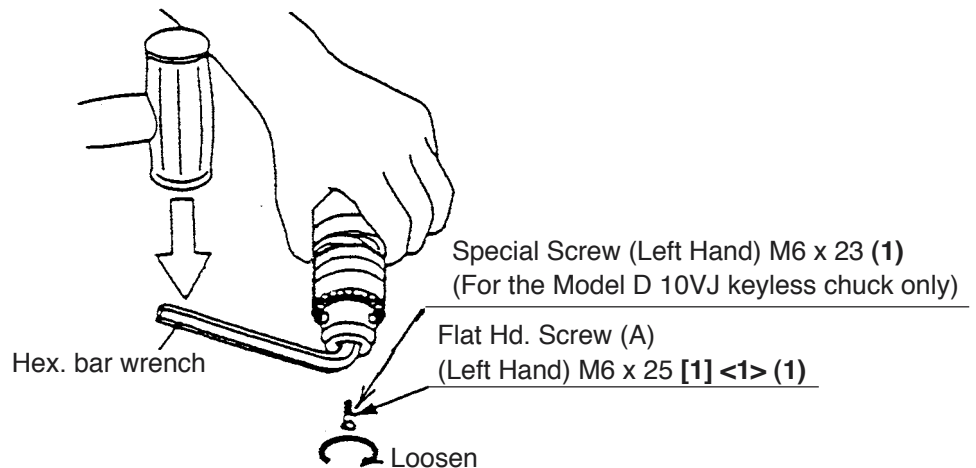

Fig. 7
- a. Hold the drill so that only the Drill Chuck [3] <3> (3) rests firmly and squarely on the edge of a solid bench. Install the hex. bar wrench into the drill chuck. Turn the drill chuck until the wrench is at about a 30° angle to the bench top and strike the wrench sharply with a hammer so the drill chuck turns in the counterclockwise direction. (Fig. 7)